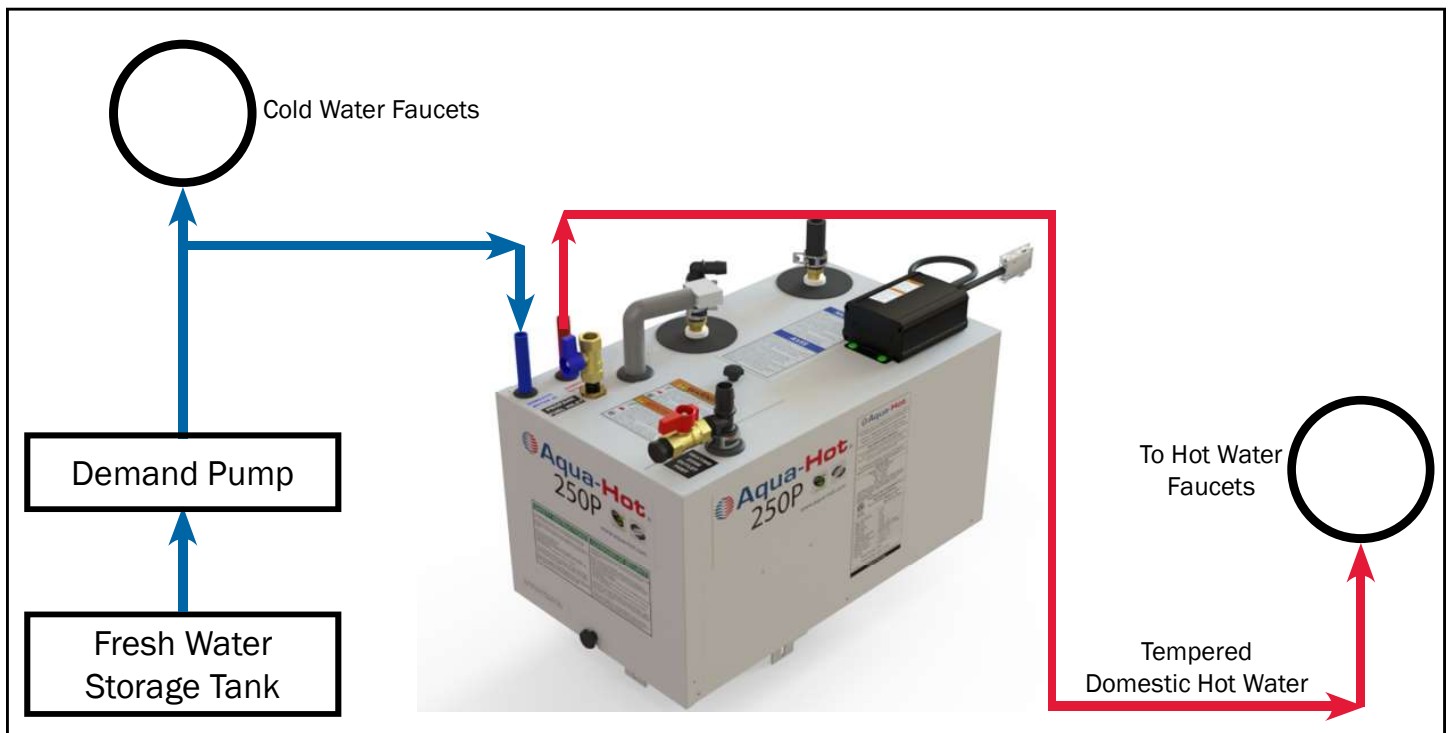

Figure 28
- Plumb the domestic water system according to Figure 28.